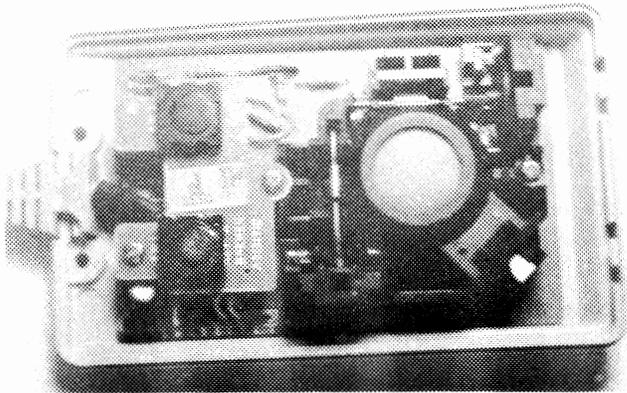
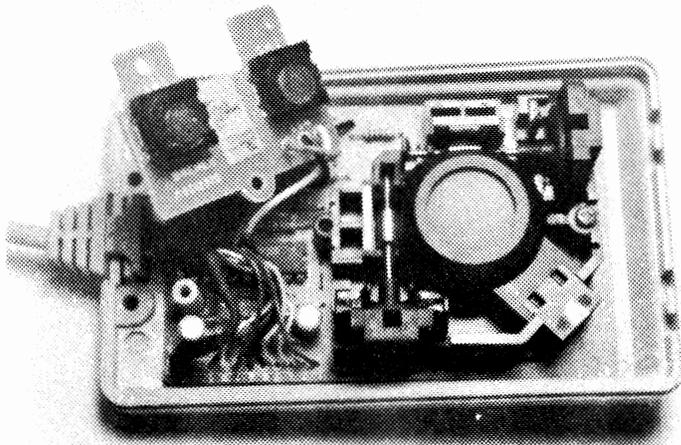

Figure 1
Figure 2
Step 3. Note the small PC board with the button contacts (Figure 1). Remove the two phillips-head screws that hold it in place, and move this small circuit board out of the way. (Figure 2)
Step 4. If you're just trying to get your mouse to work, that bunch of wires in the lower left hand corner of Figure 2 (where the wires from the cord attach to the bottom circuit board) is the first place to look. Turn on your computer, install a proportional mouse driver program, and try your mouse now. If it doesn't work, try pushing, pulling and otherwise moving these wires, and see whether or not the mouse pointer responds. If it does, you've found a broken wire or bad connection. (I've fixed two out of two dead mice by re-soldering the connections here. It may not work for you-but it's worth a try!)
Step 5. Getting at the solder connections. To get at the solder connections for repair, or to add a "reset" switch to the mouse, disconnect the mouse from the computer again, and remove the rest of the mouse from the case by unscrewing the main mounting screw at the end of the mouse (by the ball - see Figure 2). Try not to let the ball fall out of the mouse and roll across the floor!